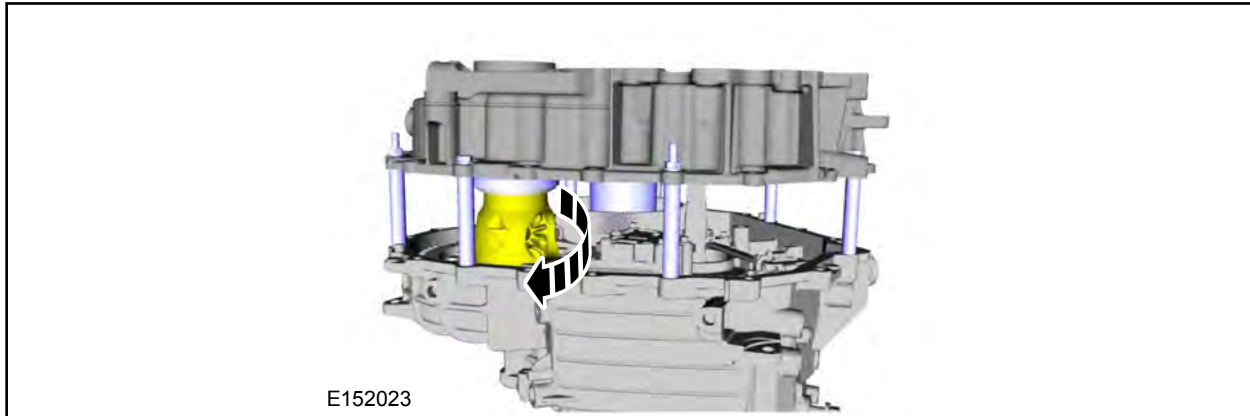

FIGURE 26
21. Rotate the transfer shaft and the differential several times to seat the bearing cups. See Figure 26.